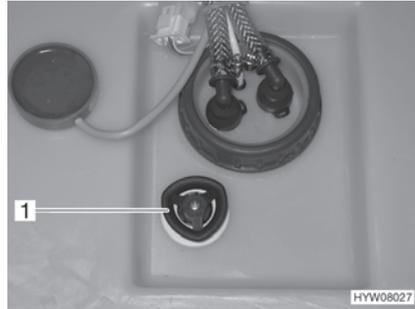

Fig. 139 Water tank with rotary handle
- Turn the rotary handle (Fig. 139,1) on the water tank in a clockwise direction as far as it will go.
- Turn the rotary handle (Fig. 139,1) on the water tank in an anticlockwise direction as far as it will go. Excess water will drain away leaving approx. 20 litres in the tank.